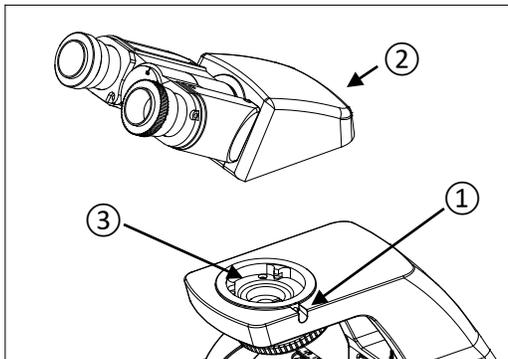

Fig. 1
(Fig. 1 & 2)
The condenser was installed and centered by our technicians prior to delivery. If the condenser needs to be re-installed or adjusted in the future, rotate the coarse focusing knob ① to raise the stage to the highest position (see Fig. 1).